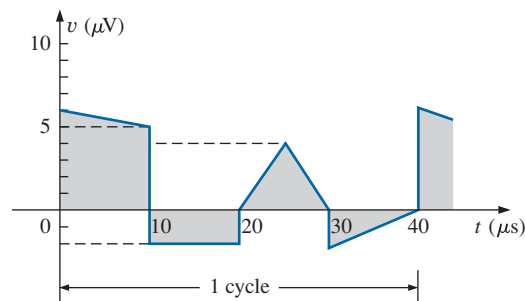

FIG. 13.99
42. Find the average value of the periodic waveforms in Fig. 13.99 over one full cycle.